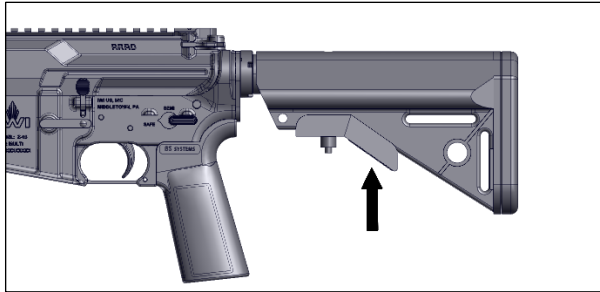

Figure 8-3 - Retracting the Buttstock
1. Press the Telescopic Stock Lever upwards to release the Buttstock Pin that fastens the Buttstock (Figure 8-3).